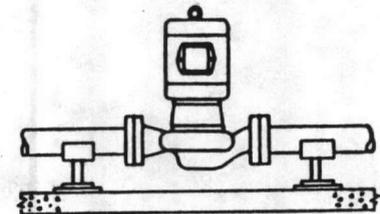

Fig. 3 Floor Saddle Support
- Floor mounted saddle supports (Fig. 3)